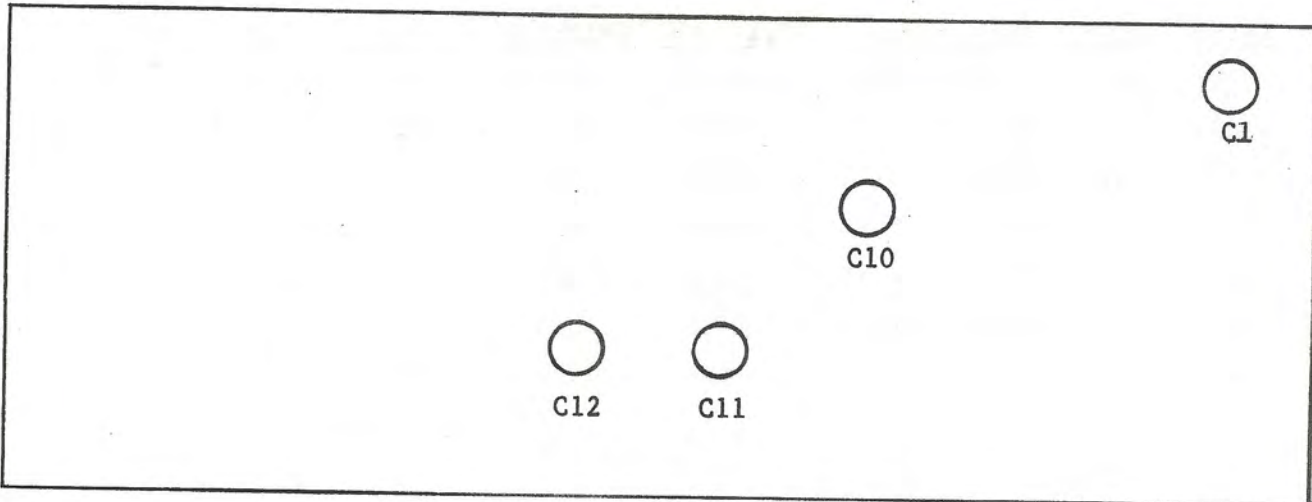

FIGURE 5-2B RF POWER AMPLIFIER BOX
- 5.2.18 Adjust C10 of RF Power Amplifier Box for Maximum Reading in Position #7 of Test Meter. (Capacitor should be 1/3 of maximum setting). See Figure 5-2B.